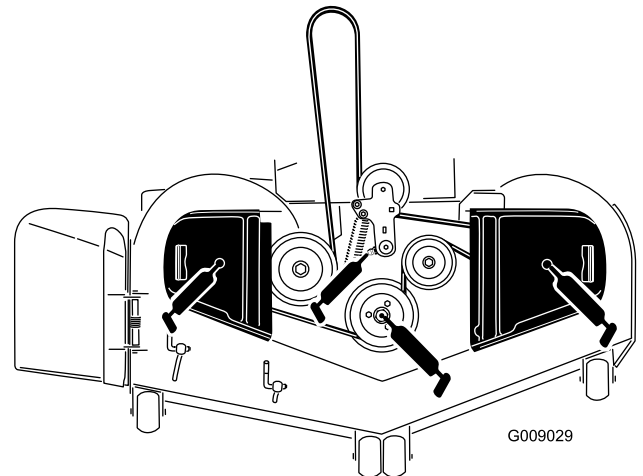

Figure 41
3. Grease the mower-deck idler-pulley pivot until grease come out the bottom (Figure 41).
4. Grease the 3 spindle bearings until grease comes out the lower seals (Figure 41).
- Grease the drive-belt idler arm (Figure 41).